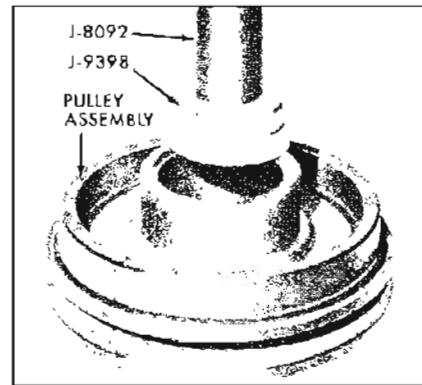

Figure 11-65—Removing Bearing from Pulley Assembly
5. Drive out bearing (see Figure 11-65) by use of Puller Pilot (J-9398) and Handle (J-8092).